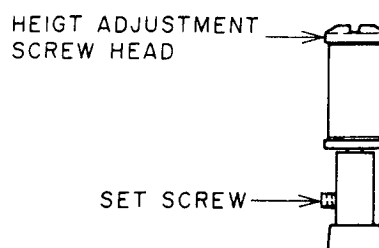

Fig. 5-12
- 1) Slightly loosen the set screw at lower part of the LOADING LEADERS (L), (R) so that LOADING LEADER can be adjusted with reasonable tightness. (Refer to Fig. 5-12.)